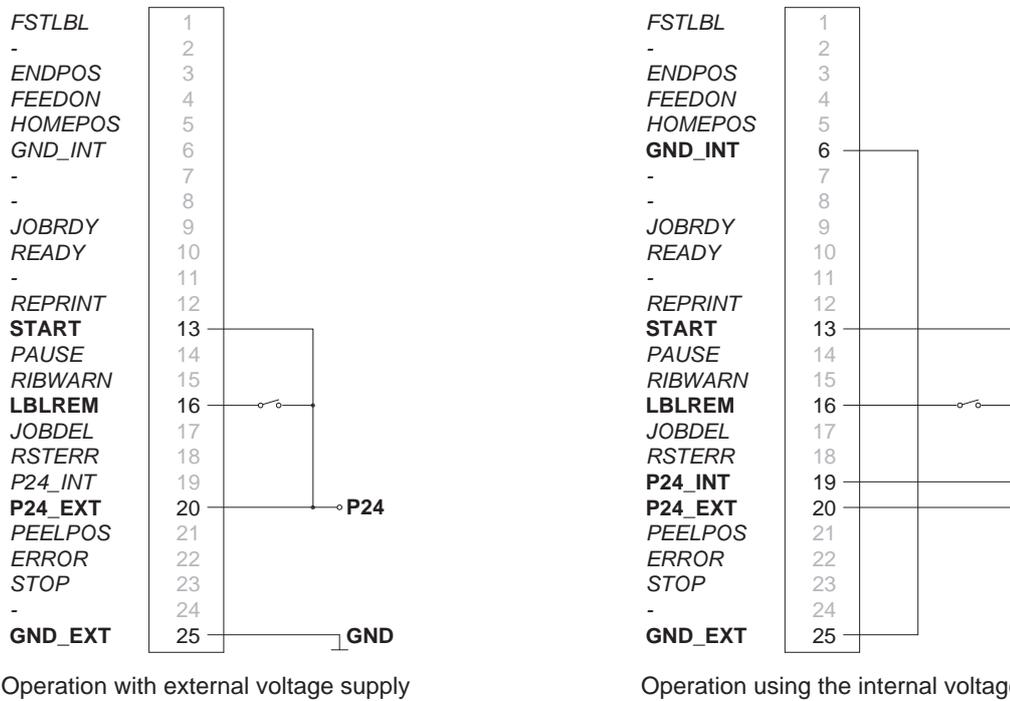

Figure 8 External circuit for peeling-off on demand without present sensor with switching signal LBLREM
- External circuit as shown in Figure 8.